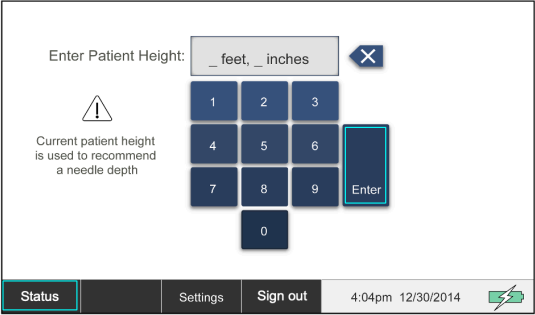

Figure 40 Patient Height
2. Enter the Patient Height then press *Enter* (see Figure 40).